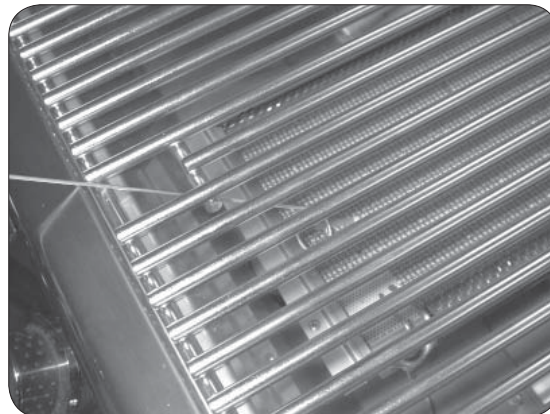

Fig. 21-2 - Manual lighting
2. Insert either a burning long-barrel butane lighter, a burning long-stem match, or a burning match held by a wire extension holder through the cooking grid opening to the top of the burner (Fig. 21-2).
4. If the burner does not light within five (5) seconds of turning the control knob, **immediately depress the knob and turn the valve to OFF**. **WAIT FIVE (5) MINUTES** before repeating steps 2 through 4 of the **MANUAL LIGHTING** instructions.